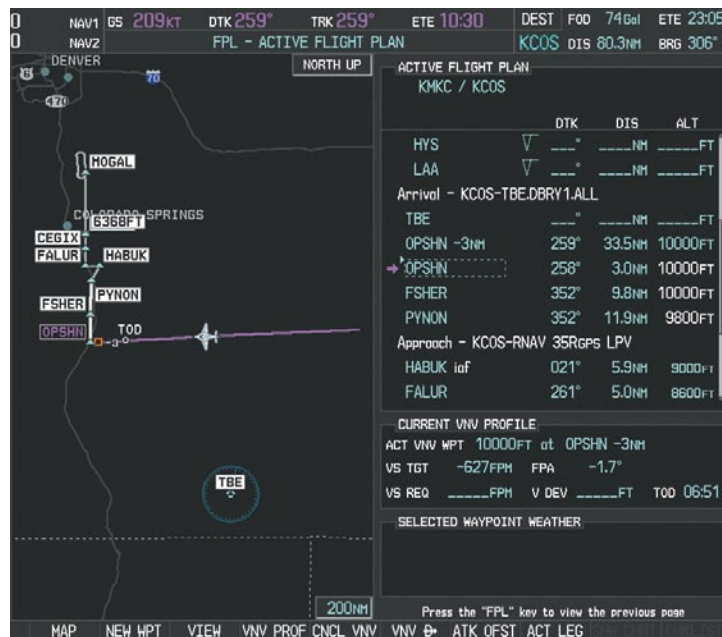

Figure 5-131 Adjusting the Descent
- a) Press the **VNV PROF** Softkey to place the cursor in the target vertical speed field (VS TGT) as shown in Figure 5-131.